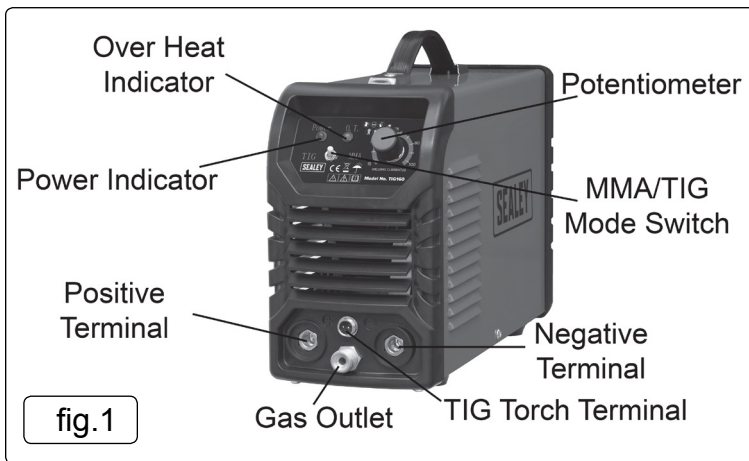

fig.1A
- 7.1.2. When the mains switch is on, check that the power lamp is on (fig.1A). If this is not the case then there may be a mains supply problem.
- 7.1.3. Check the overheat indicator (fig.1A) - has the thermal cut-out activated? This indicates either an over or under voltage or short circuit. If the thermal interrupter has activated, wait for the machine to cool down before restarting.